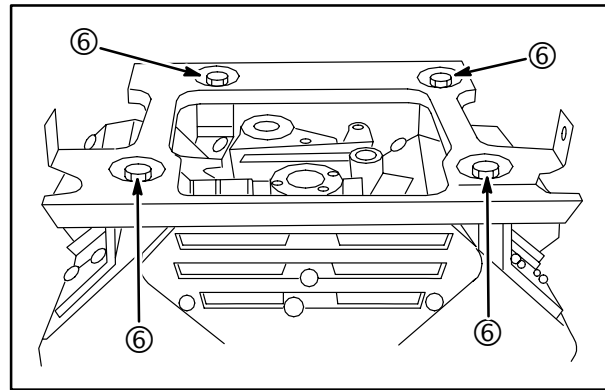

Fig. 2
7. Remove 4 screws (6) and the fuel tank base plate, **Fig. 2.**